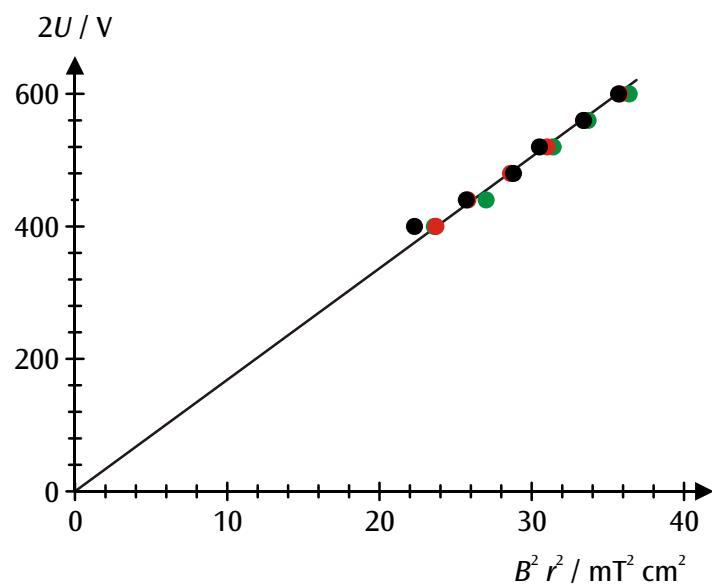

Fig. 3 Graph of  $r^2 B^2$  against  $2U$  for values as measured (black:  $r = 5 \text{ cm}$ , red:  $r = 4 \text{ cm}$ , green:  $r = 3 \text{ cm}$ )
- For further evaluation, plot the measured values in a graph of  $r^2B^2$  against  $2U$  (see Fig. 3).